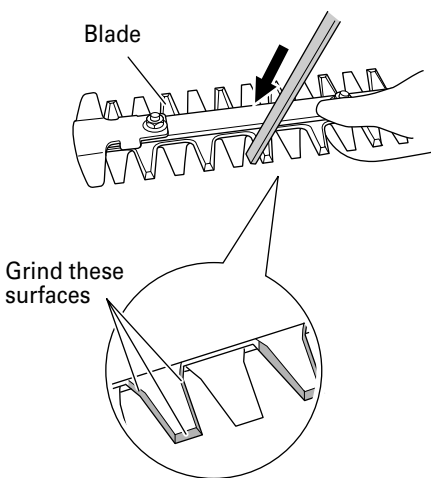

Fig. 12
1. Sharpening the blade (Fig. 12)